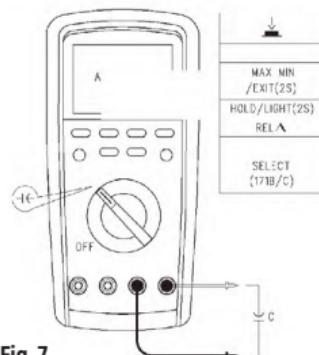

Fig. 7
5. Capacitance measurement (see Fig. 7)